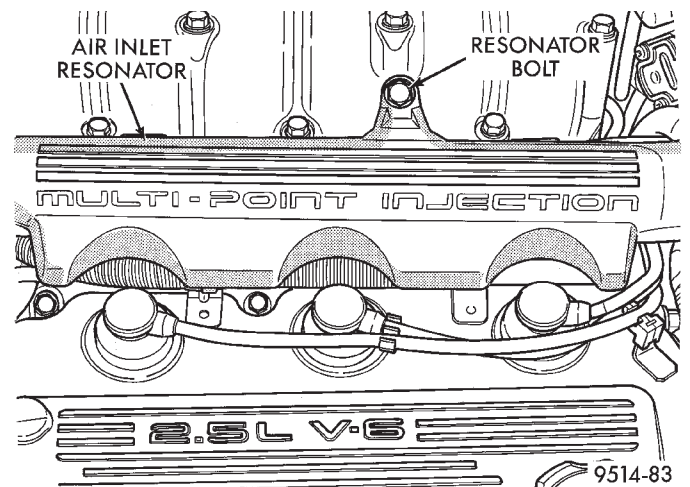

Fig. 31 Air Inlet Resonator
(4) Remove bolt holding air inlet resonator to intake plenum (Fig. 31).